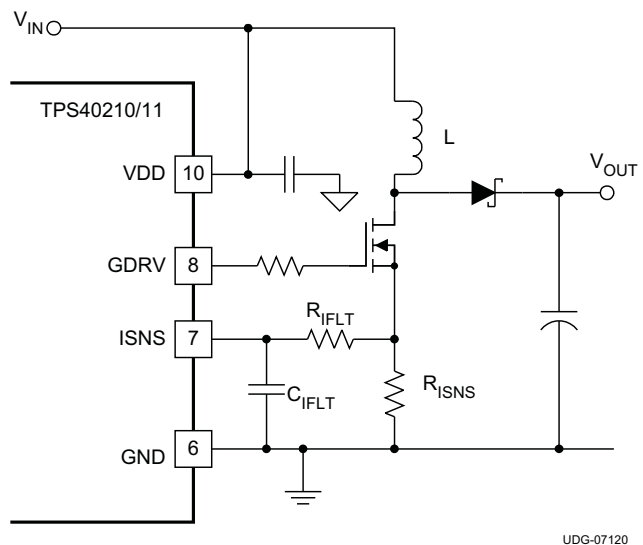

Figure 23. Current Sense Components
- $V_D$  is the drop across the diode in Figure 23
- $V_D$  is the drop across the diode in Figure 23 (10)
It is possible to increase the voltage compensation ramp slope by connecting the VDD pin to the output voltage of the converter instead of the input voltage as shown in Figure 23. This can help in situations where the converter design calls for a large ripple current value in relation to the desired output current limit setting.
In most cases, a small filter placed on the ISNS pin improves performance of the converter. These are the components  $R_{IFLT}$  and  $C_{IFLT}$  in Figure 23. The time constant of this filter should be approximately 10% of the nominal pulse width of the converter. The pulse width can be found using Equation 11.